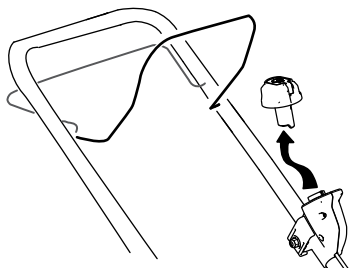

Figure 18
1. Remove the electric-start button (Figure 18).